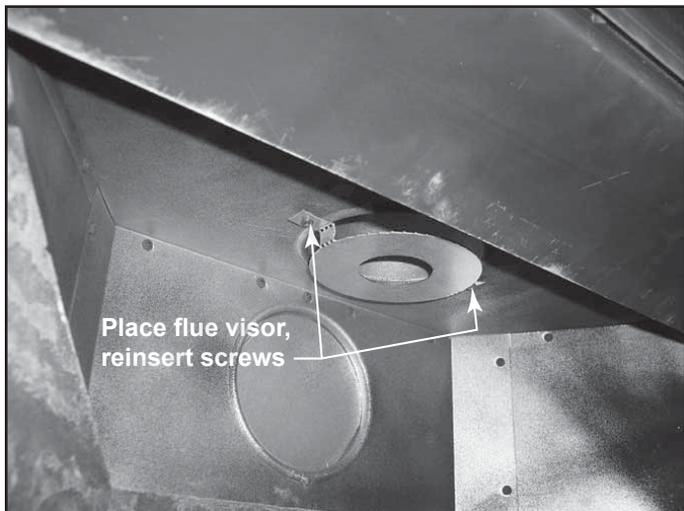

Figure 7.7d 12-30 ft Vertical Run
- The flue baffle will be turned to install below the level of the firebox top for 12-30 ft vertical runs of vent. See Figure 7.7d.